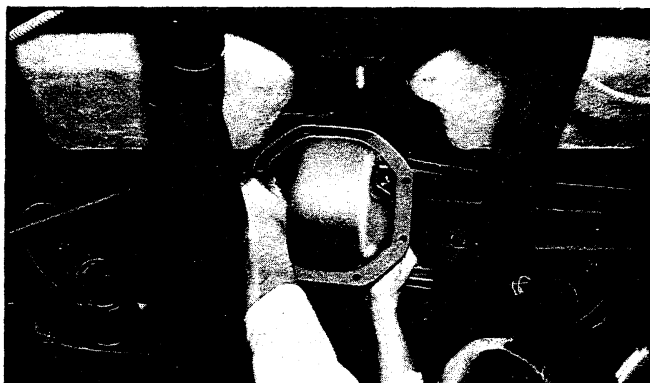

Fig. 69—Removing Crossmember (Corvette)
3. Support crossmember, remove bolts securing crossmember isolation mounts to frame and lower crossmember (fig. 69).